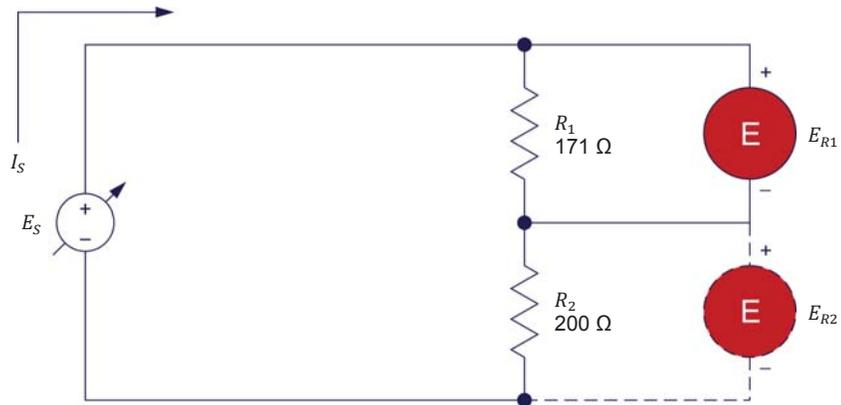

Figure 30. Circuit made of resistors connected in series.
Set up the circuit shown in Figure 30. To obtain the resistor arrangement of Figure 30, make the necessary connections and switch settings on the Resistive Load module.
4. Calculate the equivalent resistance  $R_{Eq.}$  of the series resistors in Figure 30. Then, calculate the source current  $I_S$  based on the equivalent resistance  $R_{Eq.}$  and the source voltage  $E_S$  of 50 V.
8. Disconnect the voltmeter from resistor  $R_1$  and connect it across resistor  $R_2$ , as Figure 30 shows.